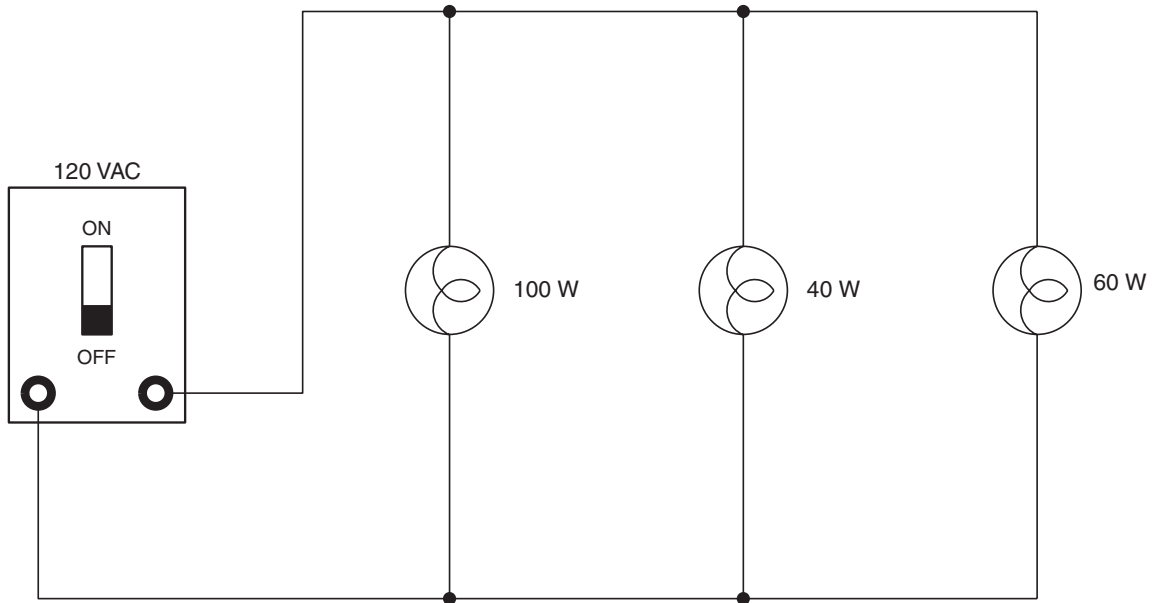

Figure 4-4 Connecting the first parallel circuit.
1. Connect the circuit shown in Figure 4-4.